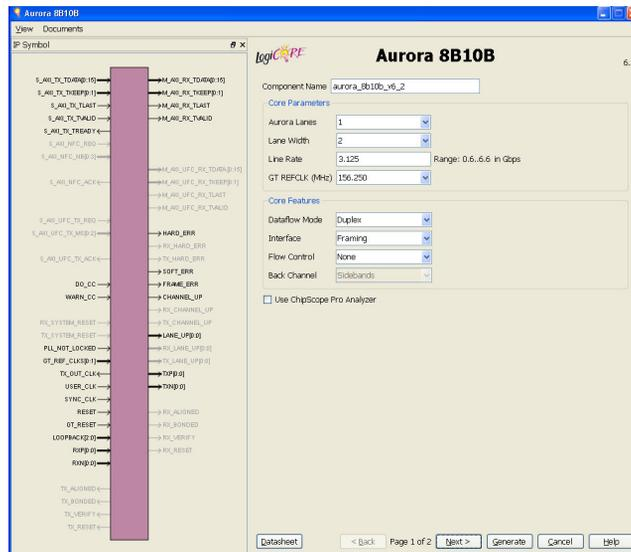

Figure 8-1: CORE Generator Aurora 8B/10B Customization Screen
7. In the Component Name field (Figure 8-1), enter a name for the core instance. This example uses the name `aurora_8b10b_v6_2`.